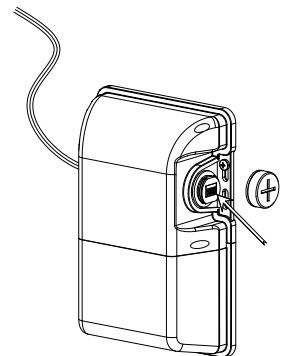

Fig 4
3. Unscrew the cap to select desired CCT/wattage/ photosensor function, and then cap back. (Fig 4)